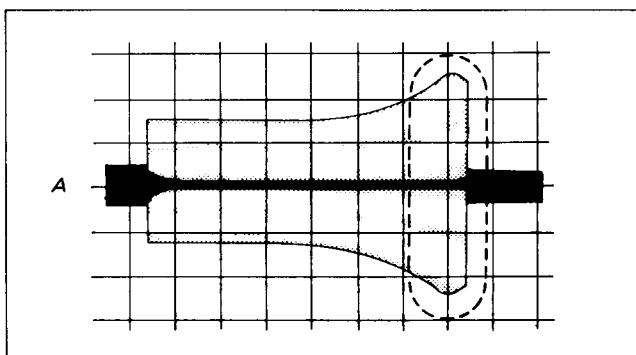

Fig. 4-12.
- When the waveform is outside this range and has the form shown in Fig. 4-12, turn the tilt adjustment screw clockwise to adjust until the waveform is within the required range.
- When the exit free waveform is outside of the required range and has the form shown in Fig. 4-13, turn the tilt adjustment screw counterclockwise to produce waveform A (Fig. 4-12), then turn it clockwise to bring the waveform within the required range.
- 8) If the radio frequency waveform is as shown in Fig. 4-12 on the exit side, repeat the adjustment.